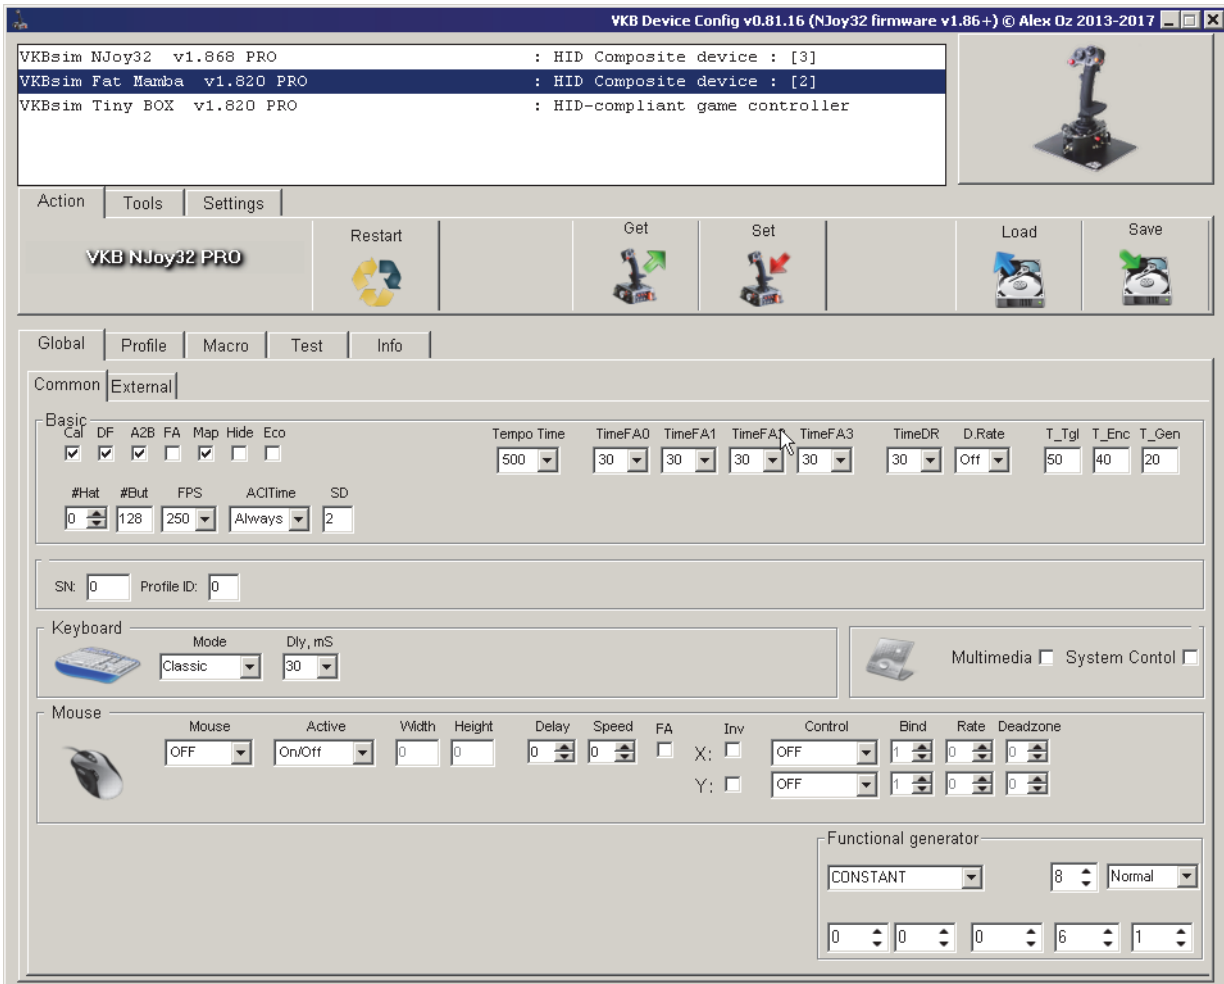

Fig. 2.1.
After you launch *VKBDevCfg-C.exe* the main **VKBDeviceConfig** window will appear. The title bar contains configurator version (Fig. 2.1).
2. Run *VKBDevCfg-C.exe*, select joystick name in the list (fig. 2.1 on p. 12).